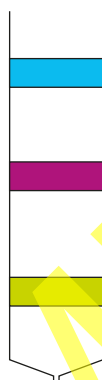

FIGURE 1
- 2 Column chromatography was performed to determine the pigments within a plant sample. The chromatogram shown in Figure 1 was analysed. What conclusions could be made about the blue pigment?